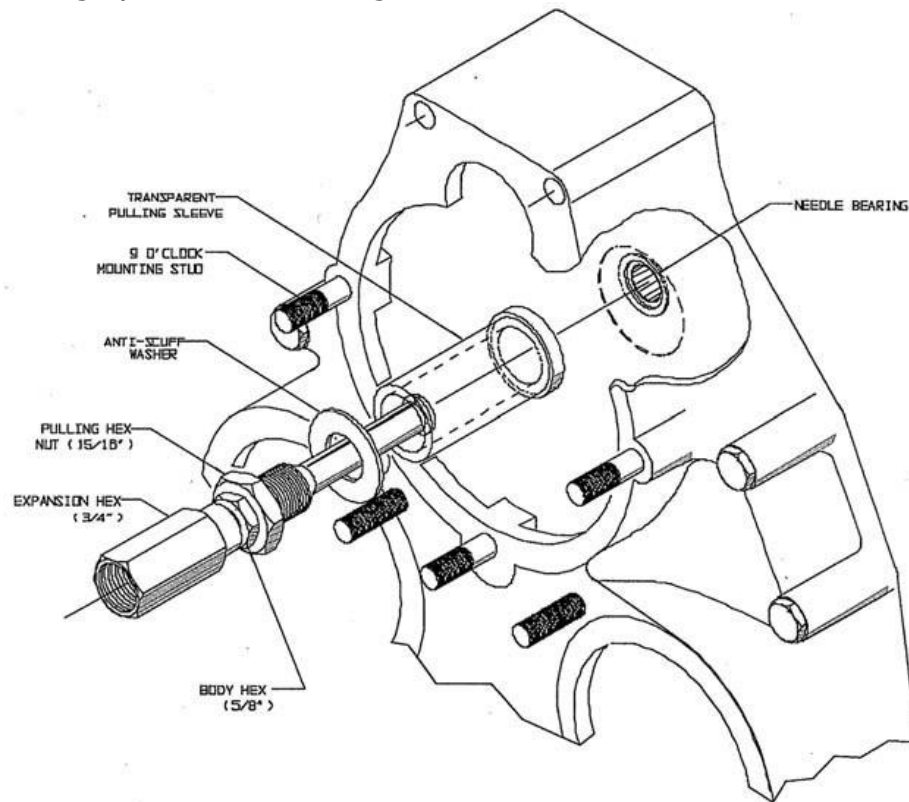

Figure 5.7.20.2 Starter needle bearing removal.
- (f) Remove needle bearing, if present. Refer to Figure 5.7.20.2.